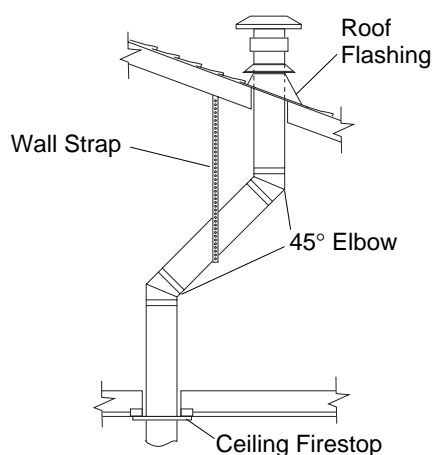

Figure 30 - Offset with Wall Strap and 45° Elbows
1. Determine the route your vertical venting will take. If ceiling joists, roof rafters, or other framing will obstruct the venting system, consider an offset (see Figure 30) to avoid cutting loadbearing members. **Note:** Pay special attention to these installation instructions for required clearances (air space) to combustibles when passing through ceilings, walls, roofs, enclosures, attic rafters, etc. Do not pack air spaces with insulation. Also note maximum vertical rise of the venting system and any maximum horizontal offset limitations. Offsets must fall within the parameters shown in Figure 18 on page 9.
Note: If an offset is needed to avoid obstructions, you must support the vent pipe every 3 feet. Use wall straps for this purpose (see Figure 30, page 14). Whenever possible, use 45° elbows instead of 90° elbows. The 45° elbow offers less restriction to the flow of the flue gases and intake air.
5. Place the flashing over the pipe section(s) extending through the roof. Secure the base of the flashing to the roof and framing with roofing nails. Be sure roofing material overlaps the top edge of the flashing as shown in Figure 30, page 14. There must be a 1" clearance from the vent pipe to combustible materials.